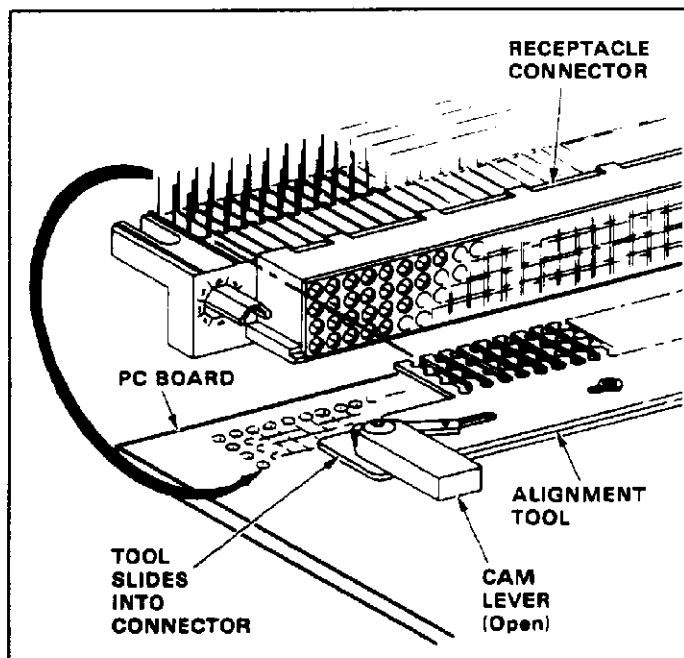

Fig. 3
B. Receptacle Connectors (Figure 3)
Refer to Figure 3 and proceed as follows: